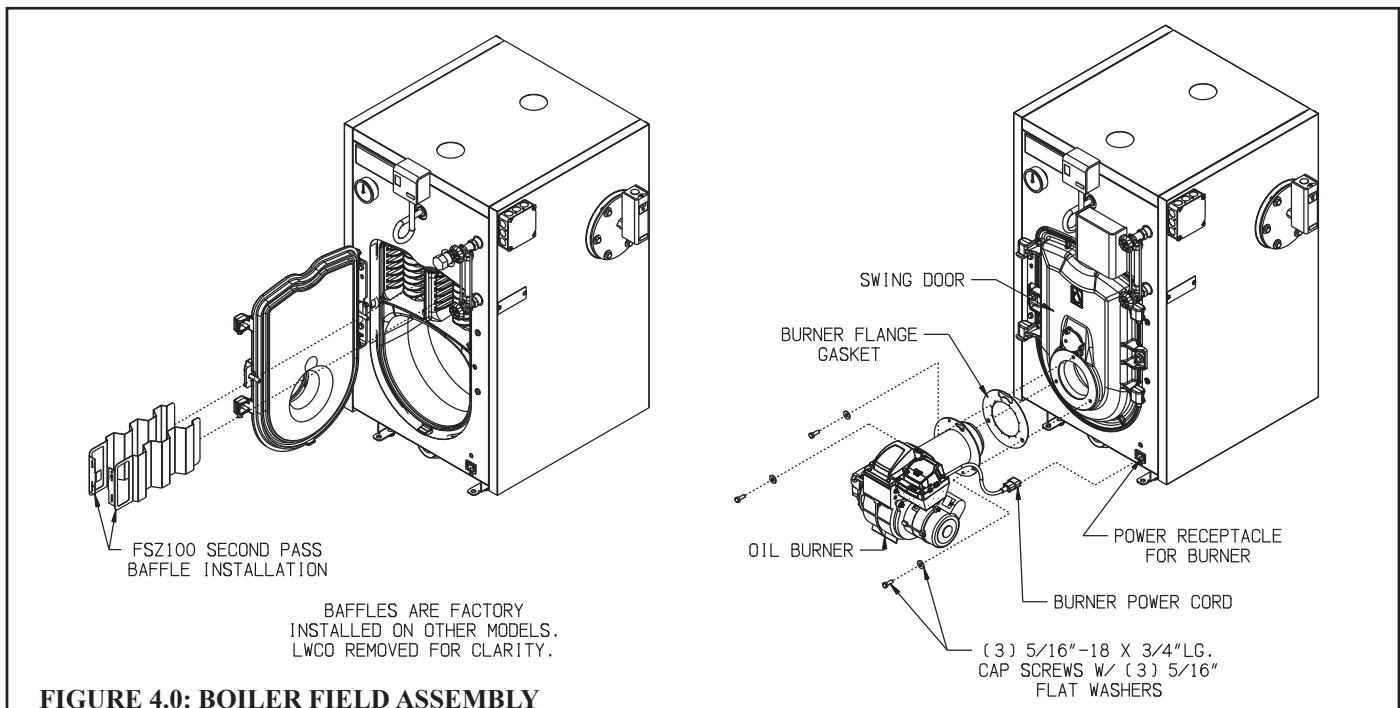

FIGURE 4.0: BOILER FIELD ASSEMBLY
- 2) Remove the burner mounting bolts and washers from the front door. Make sure that the burner gasket is in place and undamaged and mount the burner to the door as shown in Figure 4.0.
- 4) The FSZ100 uses a pair of second pass baffles which are included in the burner carton and which must be installed in the field. Install these as shown in Figure 4.0. All baffles are factory installed on other models.